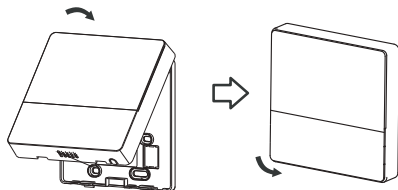

Fig 3-13
- After adjusting the upper case, secure it in place. Be sure to avoid clamping the wiring during installation. (See Fig. 3-13)